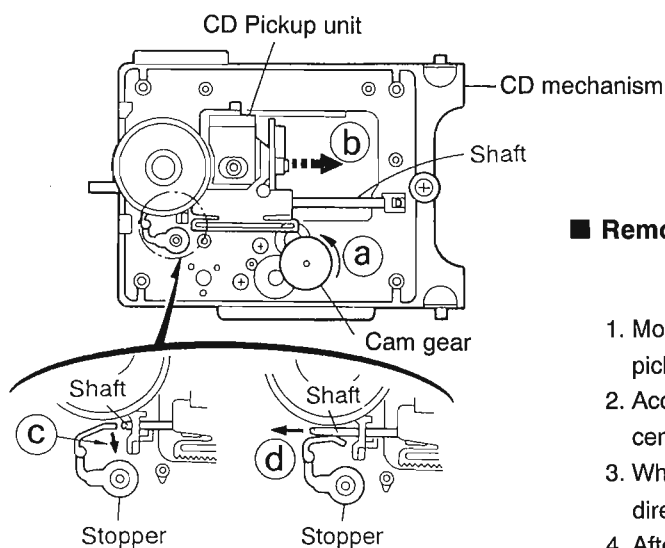

Fig.3-47
■ Removing the CD pickup unit (See Fig.3-47)
1. Move the cam gear in the arrow direction ③. Then, the CD pickup unit will be moved in the arrow direction ②.
3. While pressing the stopper retaining the shaft in the arrow direction ③, pull out the shaft in the arrow direction ④.